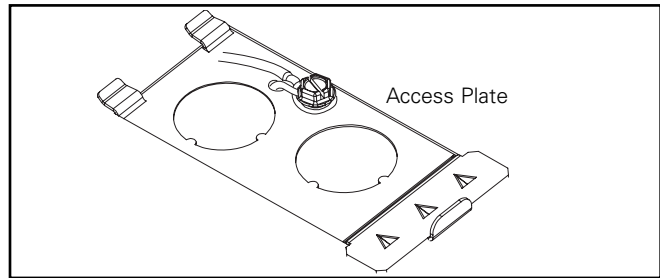

Figure 4.
5. Remove electrical access plate and remove necessary knockouts from access plate for attachment of electrical supply cable (Figure 4. and Figure 5.).
Grounding conductor (if insulated) to be stripped min. 1". Insert end of wire into small hole. Wrap wire under and around head of screw counter-clockwise (Figure 4.). Tighten screw.